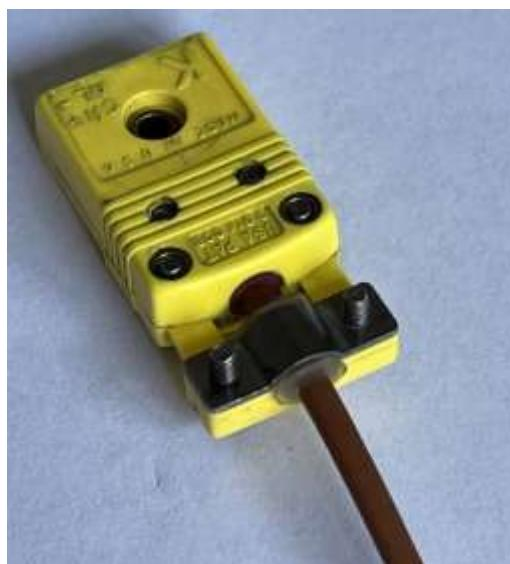

Figure 148
(16) Install the metal clamp back plate, secure with the two screws and tighten as shown in Figure 148.